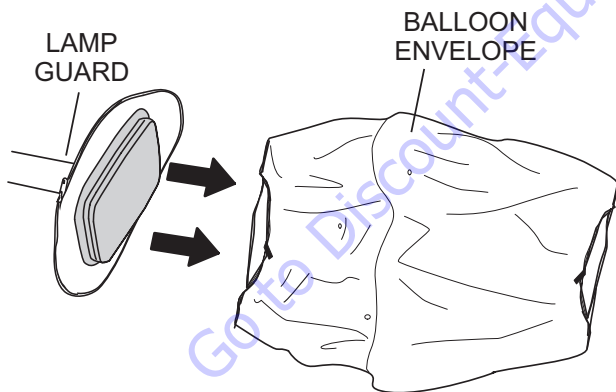

Figure 25. Removing the Balloon Envelope
2. Slide the old or worn balloon envelope (Figure 25) over the top of the lamp guard assembly.